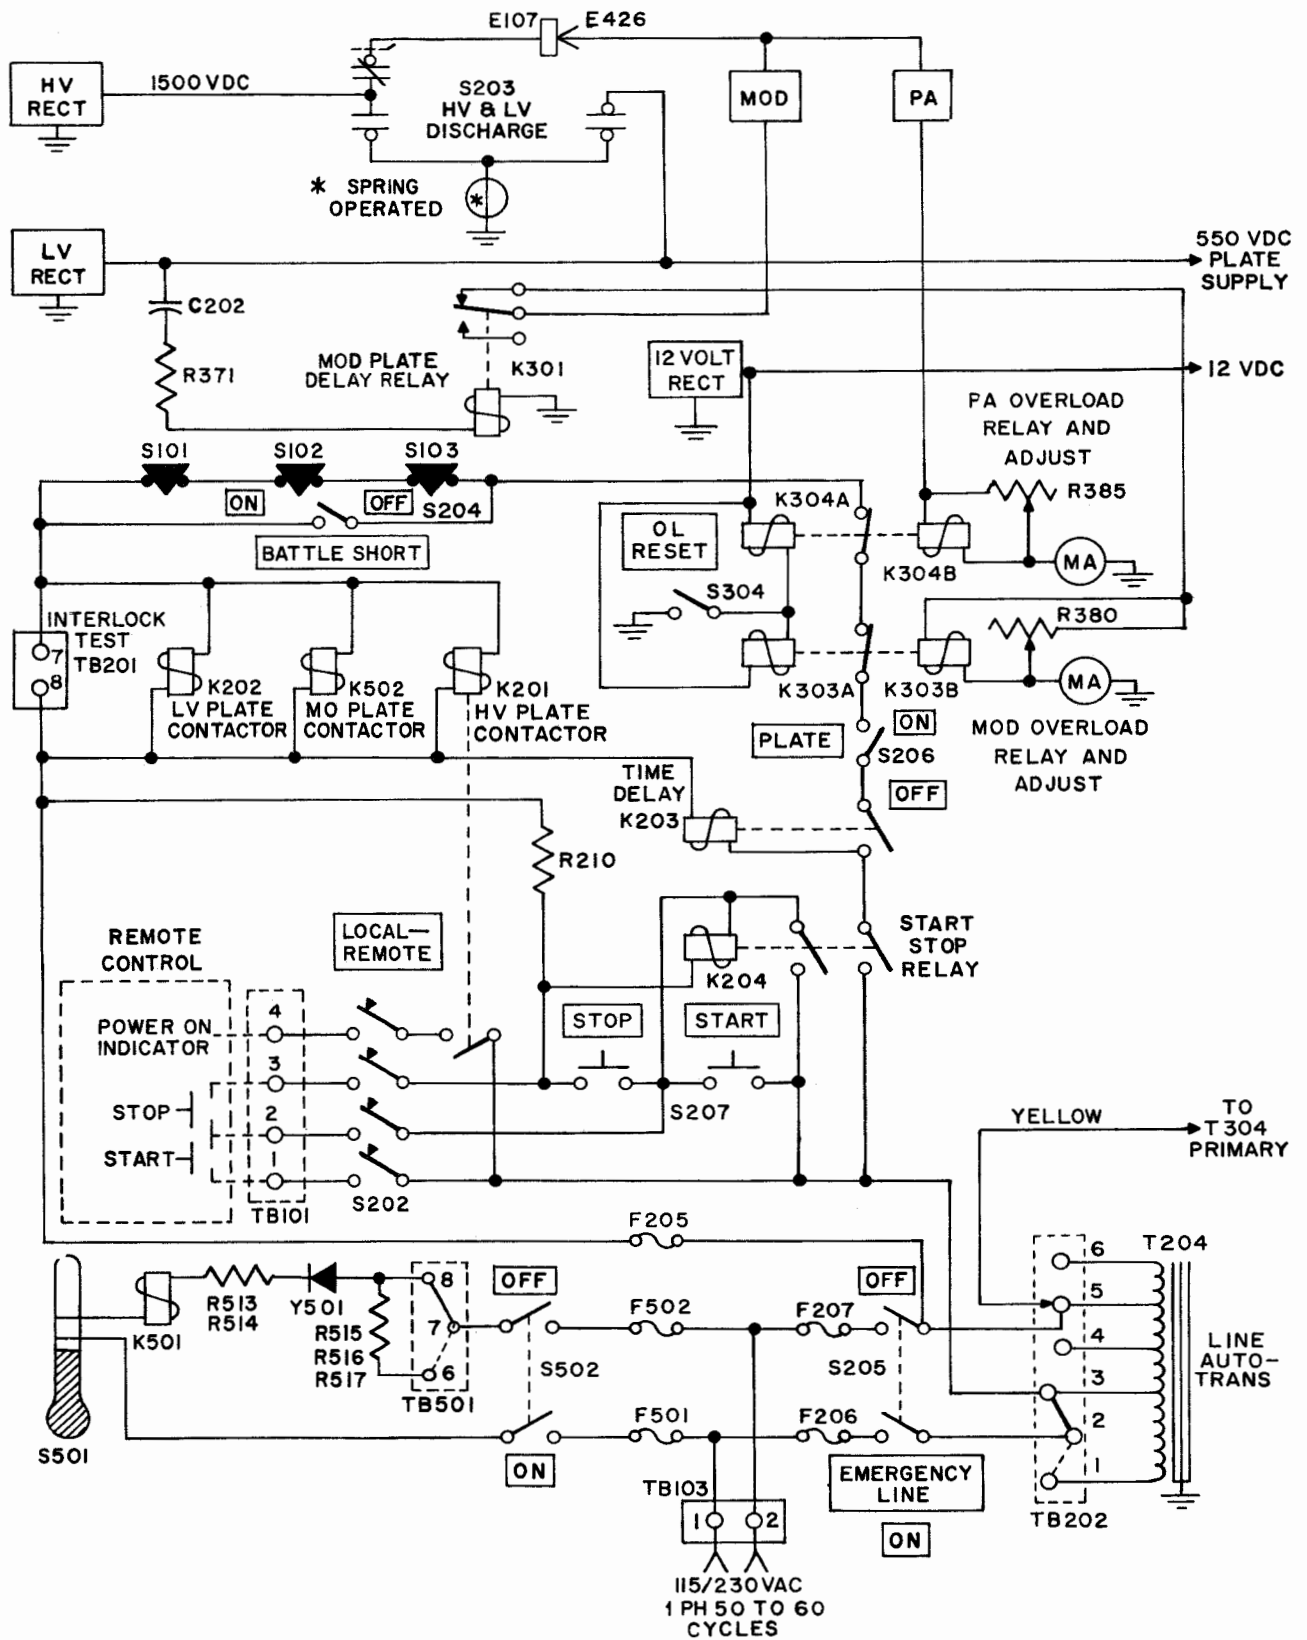

Figure 2-6. Control and Protection Circuits
(a) The oven heating circuit is shown in figure 2-4 and the heater control circuit is in figure 2-6. Power for the oven is fed directly from the supply through the oven ON switch S501 to the oven terminal board (TB501), which is equipped with jumpers so that the heaters may be placed in series for 220V or in parallel for 115V operation.
The control circuits include those for application of power, protection of personnel and equipment, and provision for remote operation as shown in simplified form in figure 2-6, and complete in figure 7-17.
c. PROTECTION. - The equipment is provided with protective devices and circuits to prevent damage to equipment or injury to personnel due to shorts, overloads, or by coming in contact with dangerous high voltage. The circuits are shown in figures 2-6 and 7-17, and are described below:
(1) Fusing - Primaries of transformers are fused to protect against shorts or overloads. The control circuit is fused separately for the oven control and the autotransformer.
(2) Time Delay - Time delay relay K203 prevents application of plate power until the tube filaments have had time to warm up. The delay time is adjustable up to 60 seconds and should not be less than 30 seconds.
(3) Modulator Plate Delay - To prevent excessive plate current flow in the modulator tubes V305 and V306, the coil of modulator plate delay relay K301 is connected in series with capacitor C202 across the LV rectifier output. Since the plate voltage would appear at the modulator tubes a very short time before the screen voltage appears, it is necessary to delay plate current flow until the proper screen voltage is developed. When the LV rectifier is energized, the changing current through C202 energizes relay K301. This opens the modulator cathodes circuit. The circuit is restored within a very short time, when C202 becomes charged, but sufficient time has elapsed for the proper screen voltage to be applied to V305 and V306.
(4) Plate Overload - Plate overload relay K304 removes plate power if the PA tubes are overloaded. The operating coil of K304 is in the ground lead of the PA cathode circuit shunted by resistor R384 and potentiometer R385 allowing adjustment of the relay operating current. Reset of this relay is explained in the following paragraph.
(5) Modulator Overload - Modulator overload relay K303 operates in the same manner as the above mentioned plate overload relay. The operating coil of K303 is in the ground lead of the modulator cathodes and is shunted by resistors R381, R382 and potentiometer R380, allowing adjustments of the relay operating point. An O. L. RESET switch S204, is located on the front panel of the Radio Transmitter to energize the reset coils on both the plate and modulator overload relays. To reset the overload relays after operation, reset coil K303A and K304A are energized by manually closing the O. L. RESET switch, which connects the reset coil to the 12 volt dc supply.
(6) Interlocks - Application of plate power, when one of the units is out of the cabinet is prevented by the cabinet interlocks S101, S102 and S103. These are sensitive-type switches mounted on the left front of the cabinet so that they are closed only when the front panels are in place. These interlocks are connected in series with the coils of plate power contactors K201, K202 and K502, all three interlocks must be closed before the contactors can be energized. The BATTLESHORT switch S204 in the ON position shorts out the interlocks in case of erratic operation or failure of the interlock switches due to excessive shock such as from gunfire. Connections for an external voltmeter for use in checking the interlock circuit is provided at terminals 7 and 8 on terminal board TB201.
(7) Interlock switches are also provided in series with the keying circuit on BANDSWITCH S402, ANTENNA RANGE switch S405, EMISSION switch S303 and ANTENNA TAP switch S406. When rotating these switches the keying ground is removed from tubes V404 and V405 and cut-off bias voltage is applied. This prevents rf voltage from appearing at these switch points, thus arcing during switching is eliminated.
(8) HV Shorting Switches - A spring-return push switch S203, is provided to ground the high side of the HV and LV rectifier outputs as additional protection. When the Power Supply unit is withdrawn from the cabinet, S203 will ground the 1500 and 550V dc supplies. When separating the upper section of the Radio Transmitter unit from the lower section, HV power is interrupted through the use of two "banana type" connectors. The 1500V dc supply to the plates of the modulator is connected by J402 to J305. The 1500V dc supply to the PA plates is, in the same manner, connected by J405 to J307.
d. PROVISION FOR REMOTE OPERATION. - Refer to figures 2-6 and 3- . - When remote operation of start-stop control of the transmitter is desired, a standard "six-wire remote control unit" similar to Navy type 23423 is connected to terminal board TB101, terminals 1 and 2 are for the start function, terminals 2 and 3 for the stop function and terminal 4 is for a power-on indicator at the remote location. With the LOCAL-REMOTE switch, S202, in the REMOTE position, the remote start and stop buttons are in parallel with the START and STOP buttons in the transmitter and operate start-stop relay K204 in the same manner. The remote power-on indicator is energized over a closed contact of K204. In order to use remote control of stop-start, it is necessary to first tune the transmitter, and then leave the EMERGENCY-LINE and PLATE switches in ON position and place the ADJUST-TUNE-OPERATE switch in the OPERATE position to set up for automatic start.